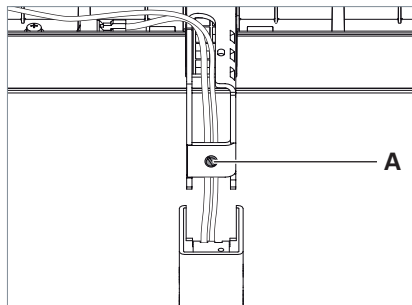

Fig. 15: Adjusting the luminaire head.
- ▶ To lift the luminaire head slightly, rotate the adjusting screw **A** one turn counter-clockwise, see Fig. 15.